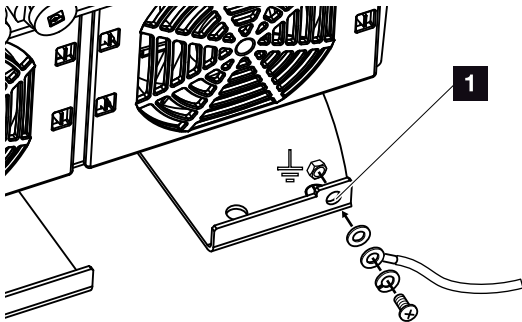

Fig. 25: Country-specific PE connection, outside
11. In countries in which a second PE connection is prescribed, connect this at the marked place on the housing (outside). **Fig. 25, It. 1**